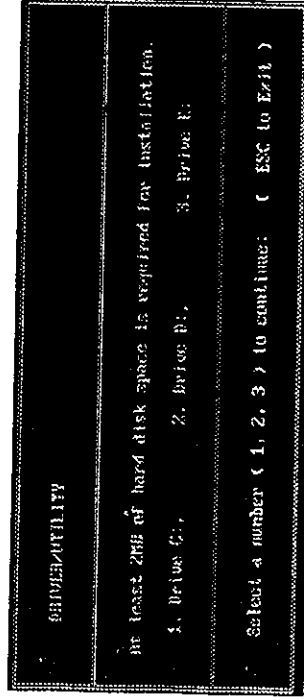

Figure 3-25.
3. A numbered list of available destination drives will be displayed on the screen. SELFCT the destination drive by TYPING in the corresponding number, e.g., to select drive C, type in "1" (see Figure 3-25).